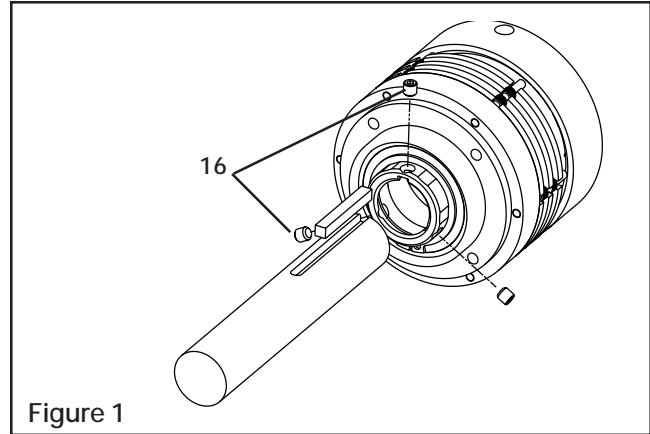

Figure 1
3. Slide the LSCC onto the machine shaft. (See Figure 1.)
4. Secure the Pilot to the machine shaft using the three Set Screws (Item 16). (See Figure 1.)